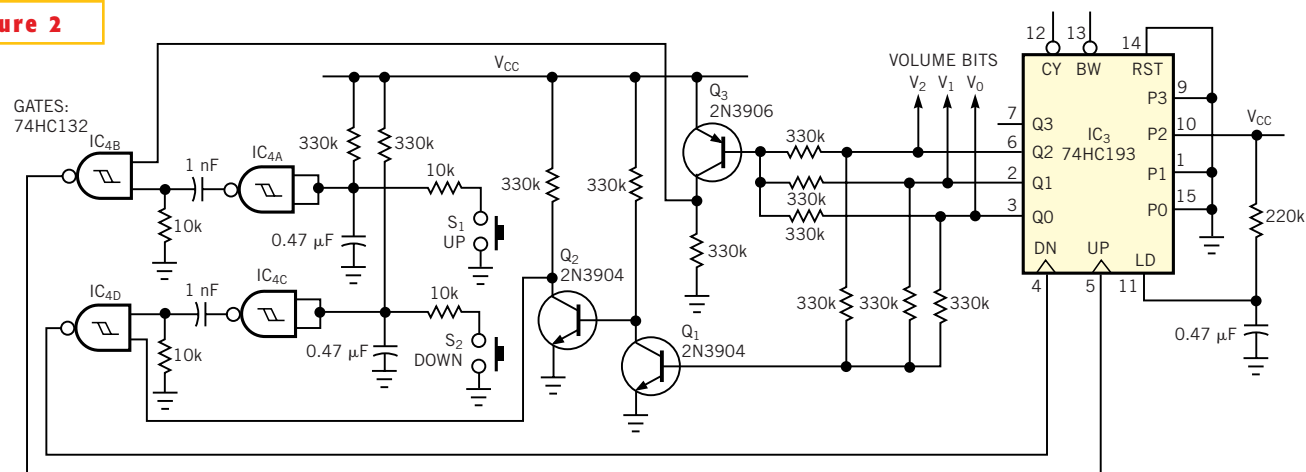

Figure 2
uation level you desire. The assumption in **Figure 1** is that your system has a way to generate the 3-bit volume codes. For those applications that do not have these bits available, you can use the circuit in **Figure 2** to generate them. Pushing switches S_1 and S_2 clocks up/down counter IC_3 up and down, respectively. Transistors Q_1 and Q_2 decode the counter's zero state and disable the down clock when the count reaches zero. In this fashion, the circuit limits the counter to a value of 0 to 7. Once you attain a maximum or minimum volume, further pushes on the up and down switches, respectively, have no effect on the volume setting un-
til you go in the opposite volume direction. Standby-current consumption of the logic is almost entirely a function of the resistors you use for Q_1 to Q_3 , because the logic chips use almost no power. You can set a nonzero power-up volume by using IC_3 's load (LD) pin when you first apply power. In **Figure 2**, the counter powers up at a "4" volume, rather than "0" (muted). 74HCXX logic operates over 2 to 7V, but the power amplifier, IC_1 , uses 2.7 to 5.5V. Therefore, IC_1 sets the operating-voltage range.